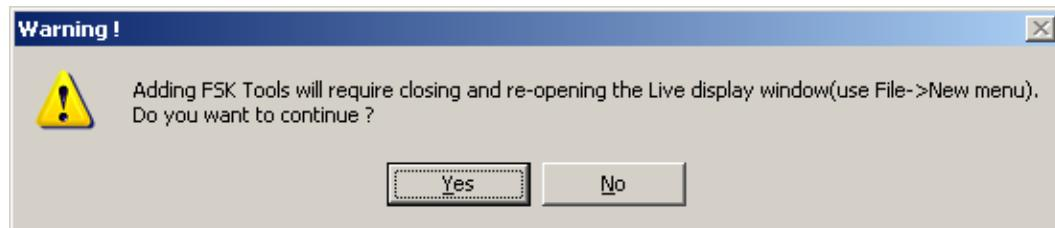

Figure 6-71: Warning Message
5. A warning will appear as shown in Figure 6-71. Click **Yes**.